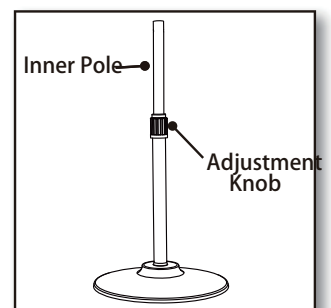

Figure 4
5. Grasp the telescopic pole firmly and twist the adjustment knob counter clockwise to loosen. Figure 4.
6. Raise the inner pole to maximum height and tighten the adjustment knob by twisting clockwise until secure. Figure 4.